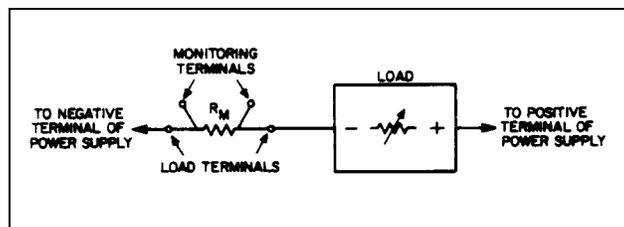

Figure 2-2. Current-Monitoring Resistor Setup
**Current-Monitoring Resistor  $R_M$ .** To eliminate output current measurement error caused by voltage drops in the leads and connections, connect the current-monitoring resistor between -OUT and the load as a four-terminal device. Figure 2-2 shows correct connections. Select a resistor with stable characteristics: